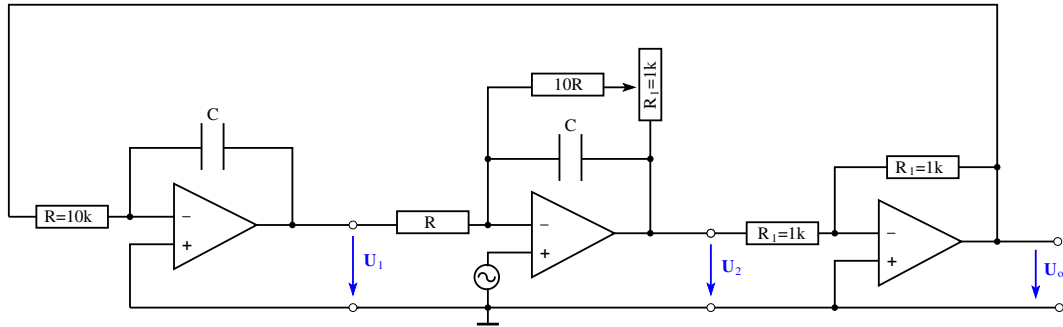

Figure 8: Circuit of an Generator for varying amplitudes
- Which **DGL** describes the **voltage curve** at the output of the **oscillation generator** in Fig. 8 at the point U_a ?
Set up the circuit of a generator with varying amplitude shown in Figure 8. A good choice